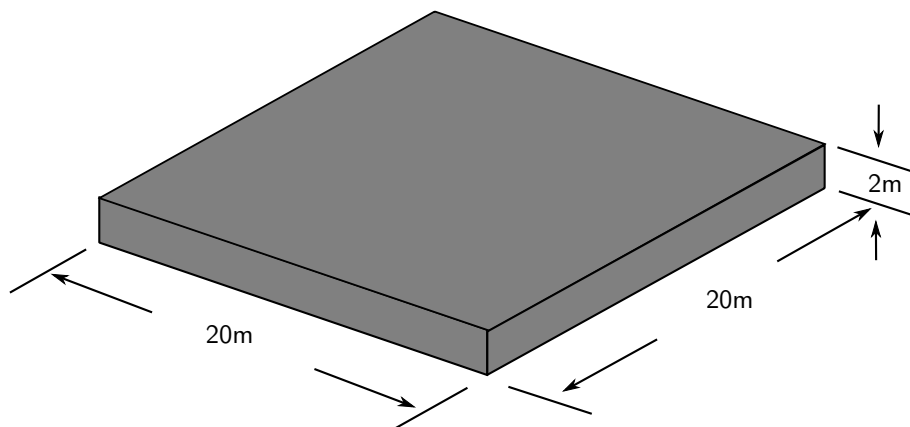

Figure 10: Vessel hull dimensions.
- ☞ Detailed hull geometry will be specified for a simple box hull, seen in Figure 10.